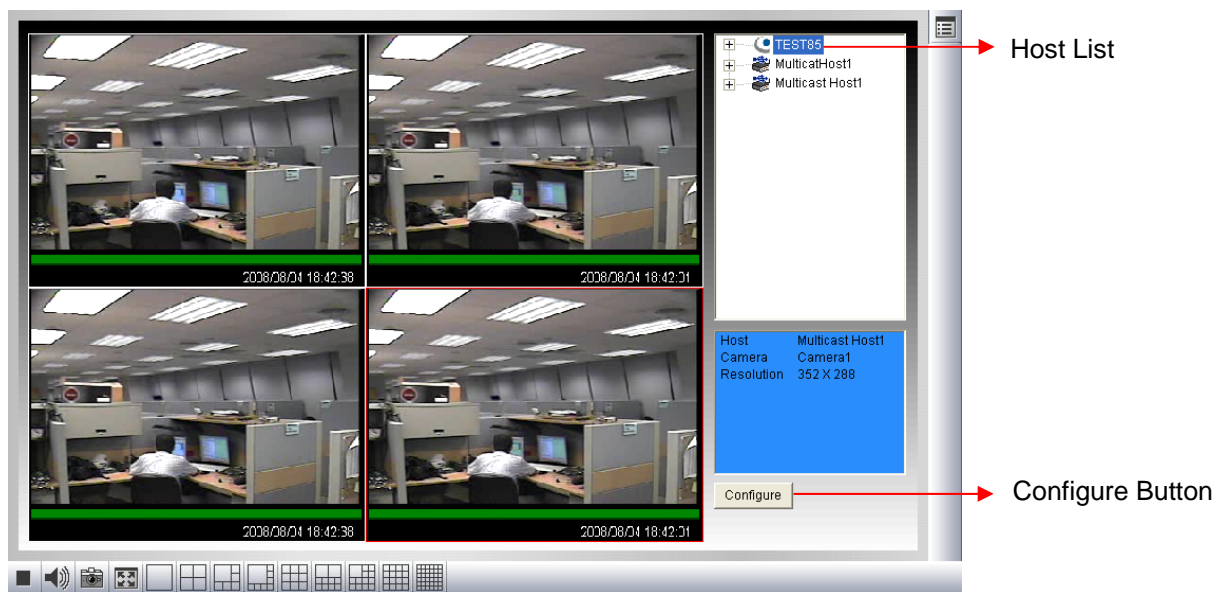

Figure 8-43
2. On the left panel, select **Live View** and select **Multicast**. The Multicast Viewer (Figure 8-43) appears.
1. Click the **Multicast** button (No. 16, Figure 8-31) on the Multi View screen. The Multicast Viewer (Figure 8-43) appears.